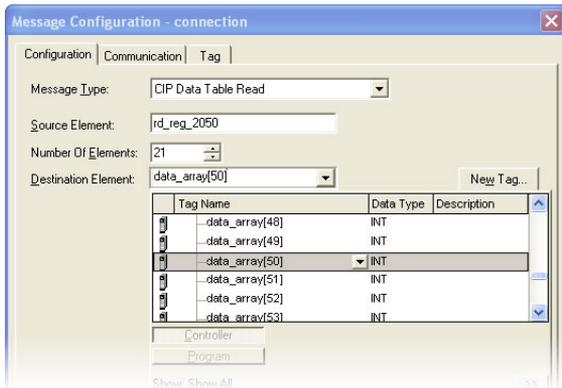

Figure 104: Selecting the Destination Element
- iv) For the Destination Element, either directly type "data_array[50]", or select element #50 in the data_array tag via the drop-down box (refer to Figure 104). The destination could be any offset in the data_array tag, as long as the offset plus the Number Of Elements (21) does not exceed the tag's defined size (73).